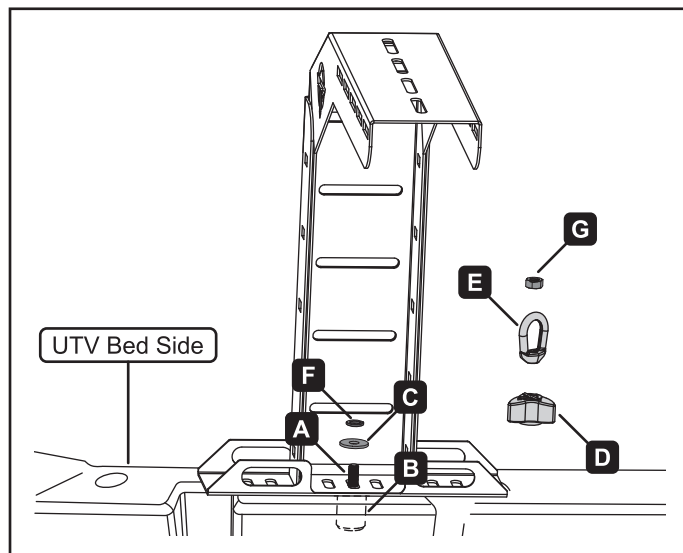

Figure 1.
1. Insert the assembly of parts A and B (and accessory) into desired location as shown in figure 1.
2. Place the washer (F), lock washer (C) and selected fastener (D, E or G) onto the bolt (figure 1).